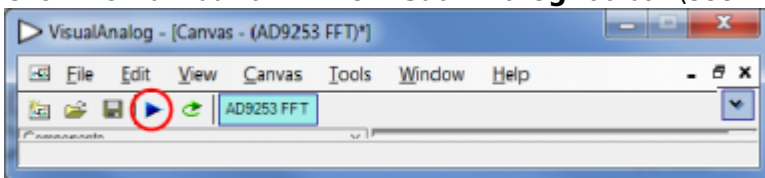

Figure 11. Run Button (Encircled in Red)
- Click the **Run** button in the **VisualAnalog** toolbar (see Figure 11).
If the FFT window remains blank after **Run** in VisualAnalog (see Figure 11) is clicked, do the following: